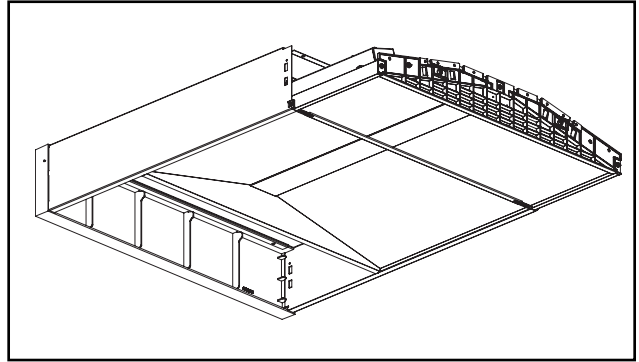

Figure 3.
3. Insert the luminaire two-thirds of the way in surface mount kit. (Lift and slide the luminaire along surface kit to avoid damaging the door frame latches). Make all electrical connections according to local code. (see Figure 3)